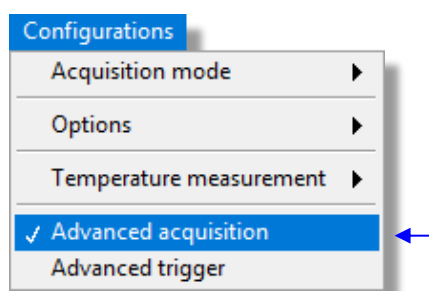

Figure 34 - Menu to select the advanced acquisition mode.
Step 03 – In the “Configurations” menu (Fig. 34), select the “Advanced acquisition”.